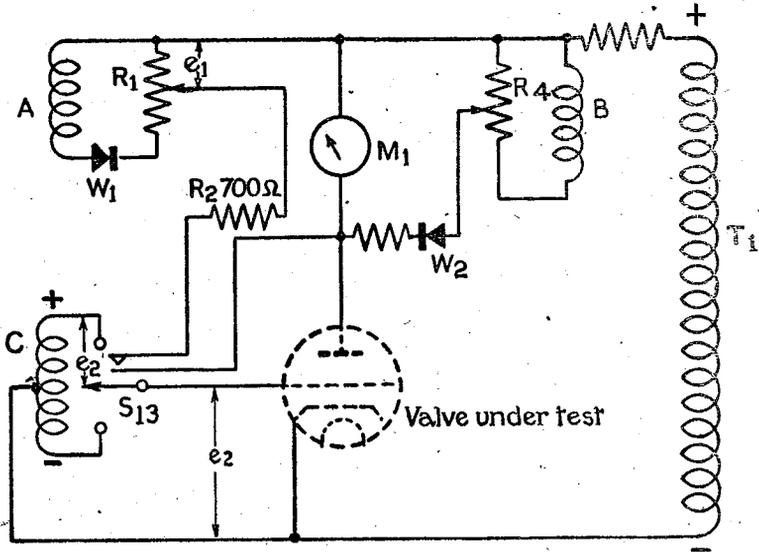

Fig. 2.—Circuit for measurement of mutual conductance
8. Reference should now be made to the simplified theoretical diagram in fig. 2 by which mutual conductance measurement in this valve tester may be most easily understood.